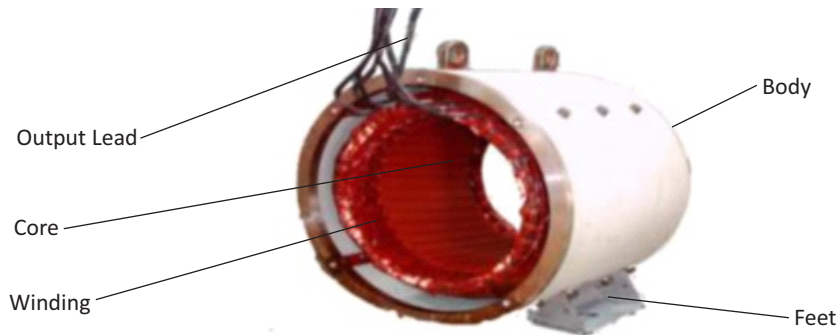

Fig. 2.12.24 Main Stator
5. The Main Stator has the following parts(Refer to Figure 2.12.24)